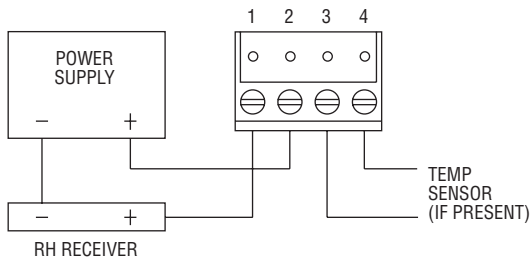
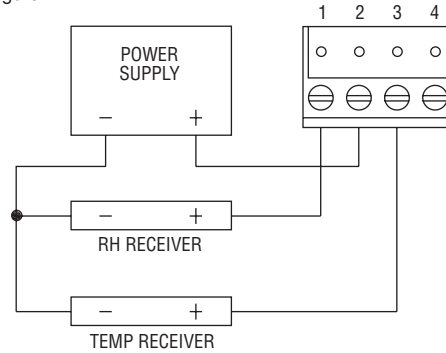

Figure 1
Figure 2
5. Proceed with wiring according to Figure 1.
Use maximum 18 AWG wire for wiring terminals. Refer to Figure 1 or Figure 2 for wiring information. Terminal blocks are removable for ease of wiring.
4 to 20 mA output units may be powered with a 10 to 35 VDC supply. (Wire as shown in Figure 1).
Dual 4 to 20 mA output units may be powered with a 10 to 35 VDC supply. The following describes the proper wiring of these transmitters: The model RHP transmitter with dual 4 to 20 mA output is designed as a two-wire 4 to 20 mA device with two channels. The channels are common on the positive side of the current loop. Sensor excitation power is derived from the RH channel, so power must always be applied to that channel. If the temperature channel is not used, it can be left disconnected. Wire as shown in Figure 2.